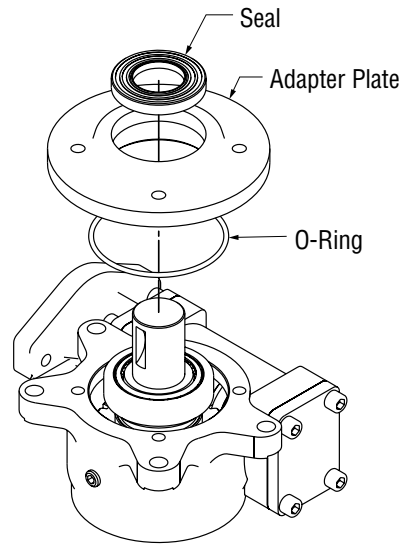

Figure 5-27, Output Shaft Seals
6. The output shaft seals may now be serviced. (Figure 5-27)